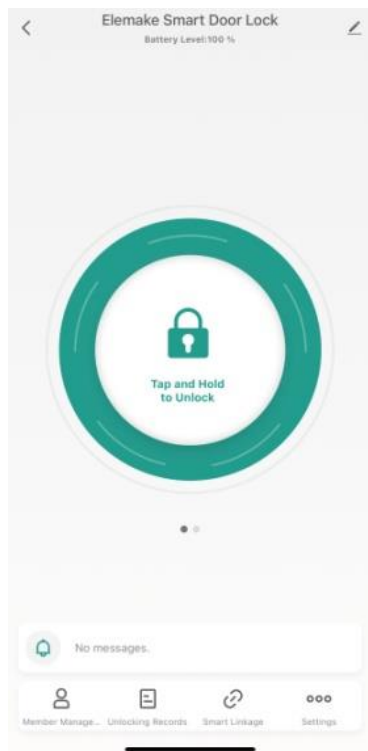

Figure Q-3
(3) Long distance unlocking (See Figure Q-3)